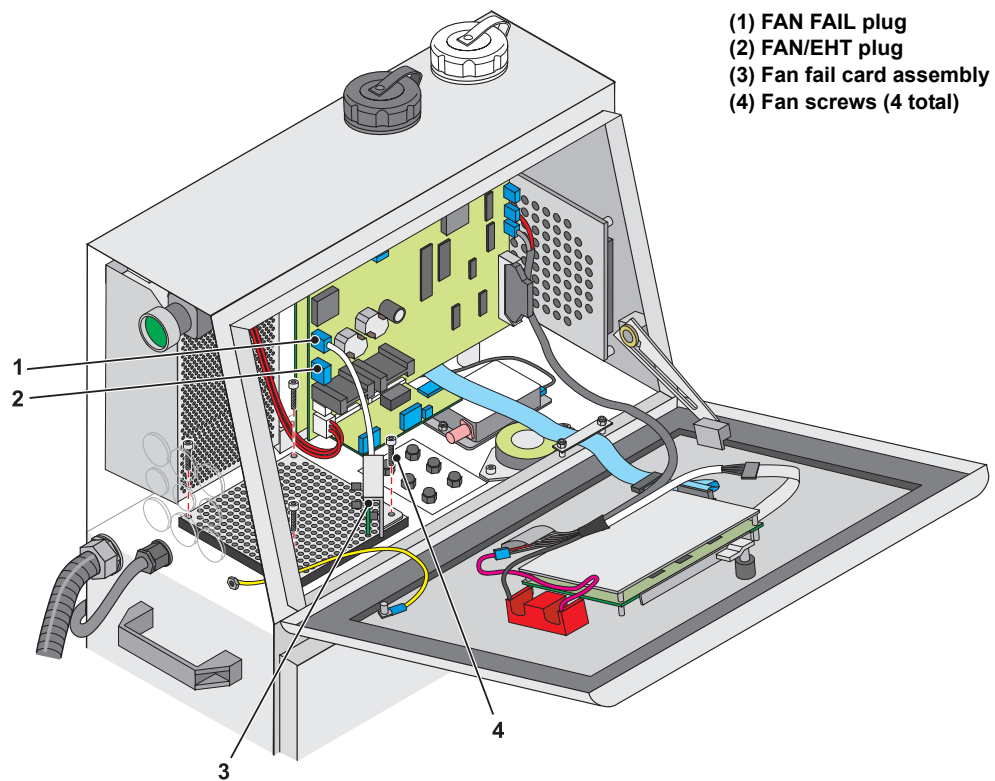

Figure 8-18. Removing the electronics compartment fan
- 1 Disconnect the FAN FAIL plug (Item 1 in Figure 8-18) from the I/O board.
- 1 Disconnect the FAN/EHT plug (2) from the I/O board.
- 3 Remove and retain the four screws (4) that secure the fan to the floor of the electronics compartment.
- 4 Set the fan fail card assembly (3) aside.